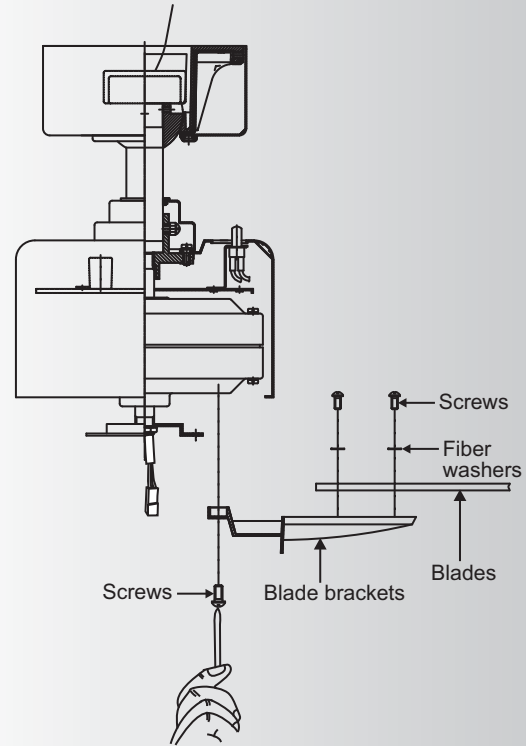

Fig. 16
**Step 2.** Slide the canopy up to the mounting bracket and place one of the key hole slots over the mounting screw on the mounting bracket. Rotate the canopy until the screw head locks in place at the narrow section of the key hole. See figure 16.
Step 1. Attach a blade to a blade bracket using the screws and fiber washers provided. (Fig. 16)
Step 2. Attach each blade assembly to the motor using the "Pre-Installed" mounting screws in the blade bracket. (Fig 16)